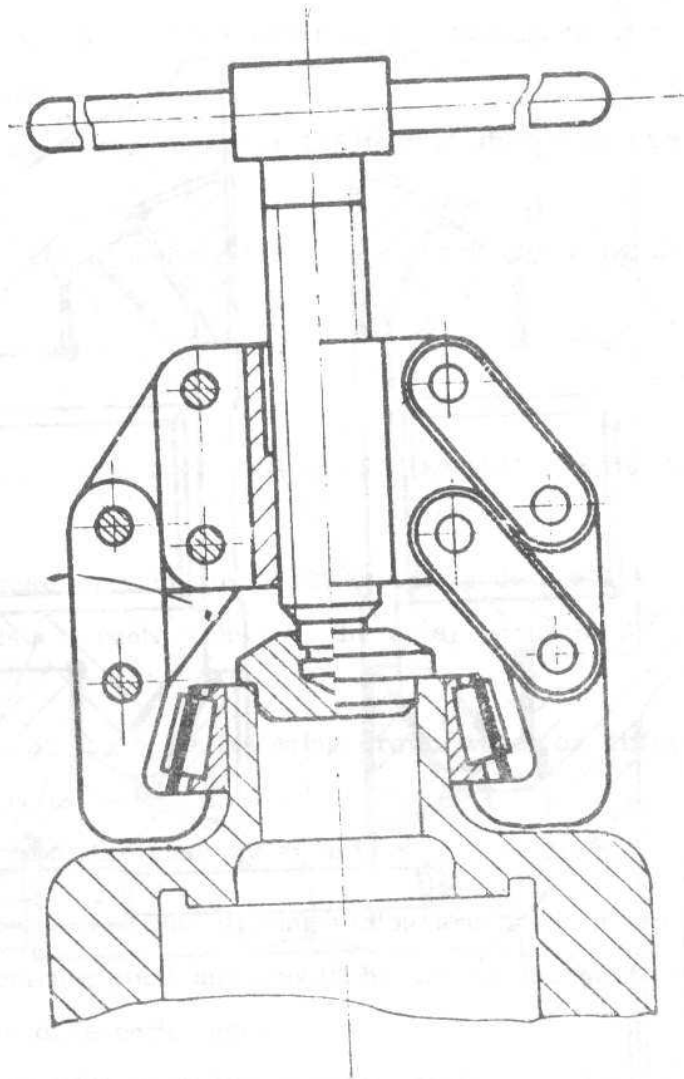

Fig. 4.117. EXTRACTING DIFFERENTIAL CASE BEARING
- Set differential gear case assy in the D 127 mounting device and remove successively, using D 124 extracting device, the inner races of differential gear case (see Fig. 4.117).